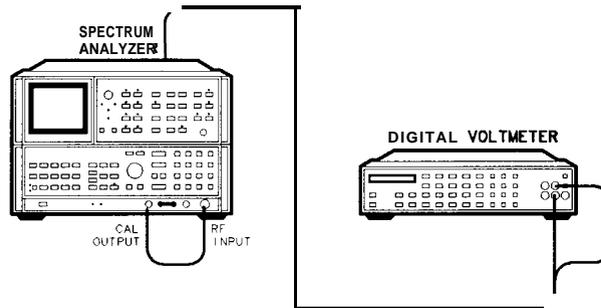

Figure 3-87. Track and Hold Adjustments Setup
1. Place instrument upright as shown in Figure 3-87 with top and A3 Digital Storage covers removed.